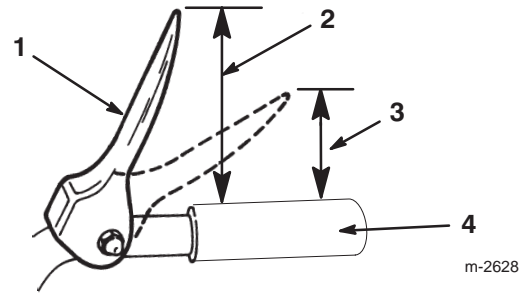

Figure 10
3. Adjust the flange locknut up or down on the upper traction rod until the distance between the top of the handgrip and the bottom of the traction control lever is approximately five inches (12.7 centimeters) as shown in Figure 10.
Note: The adjustment is correct when the wheels stop rolling backward and the distance between the top of the handgrip and the bottom of the traction control lever is three to four inches (7.6 to 10.2 centimeters) as shown in Figure 10.